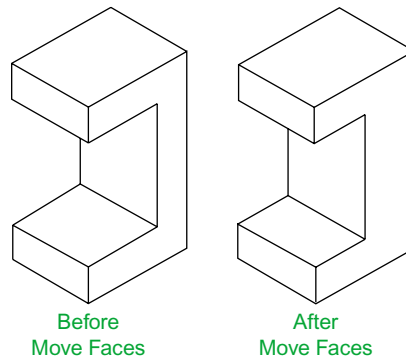

Fig. 18.6 Third example – **Solid, Move faces tool**
### Third example – Move faces tool (Fig. 18.6)
1. Construct the 3D solid drawing shown in the left-hand drawing of Fig. 18.6 from three boxes which have been united using the **Union** tool.
And the *picked* face is moved – right-hand drawing of Fig. 18.6.